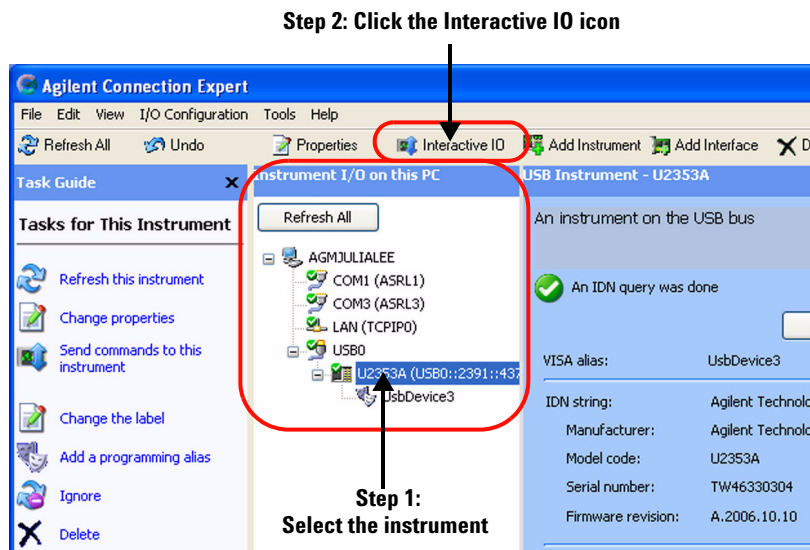

Figure 5-2 Launch the Interactive IO in Agilent Connection Expert
- 3 Connect the DAQ device to the PC with a mini-B type USB cable. The connected DAQ device will be visible in the **Instrument I/O on this PC** panel as illustrated in Figure 5-2.
- 4 Select the DAQ device that you wish to send the SCPI commands to and click the **Interactive IO** icon on the toolbar to launch the Agilent Interactive IO. See Figure 5-2.